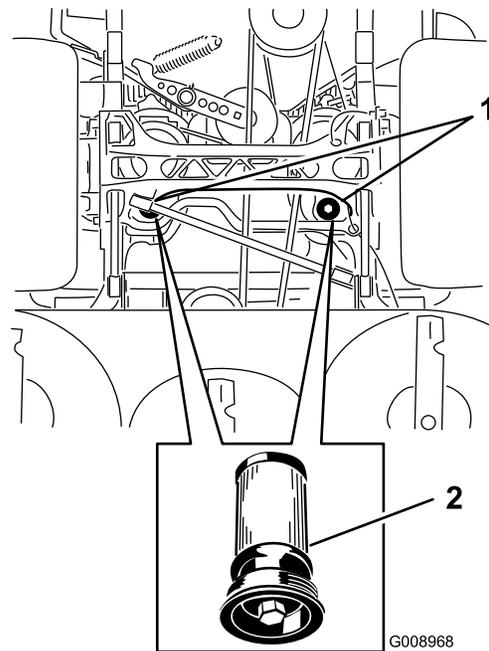

Figure 97
5. Place a drain pan under the filter, remove the old filter, and wipe the surface clean (Figure 97).
6. Apply a thin coat of hydraulic fluid to the rubber gasket on the replacement filter (Figure 97).